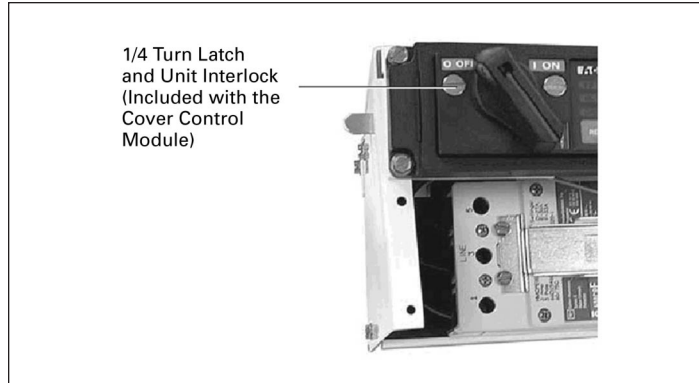

FIGURE 11.
- 1/4 turn latch and unit interlock must be fully rotated counterclockwise, see **Figure 11**, insert bottom left.
4. Turn the Unit Latch, which is located left of the unit operator (**Figure 11**), counterclockwise approximately 1/4 turn.